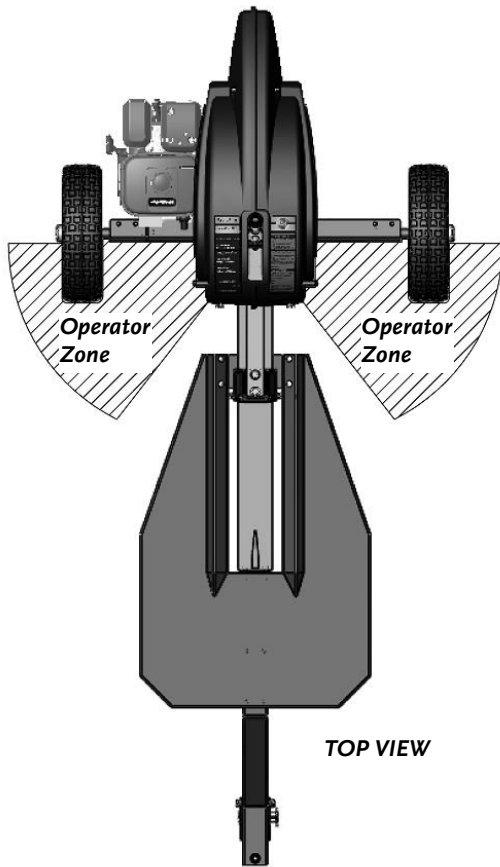

Figure 12
- When operating the Log Splitter, make sure you are standing in the safe operating area (OPERATOR ZONE) as shown in **Figure 12**. You must stay in the safe operating area at all times when the ram is in motion (whether extending or retracting). Never place any part of your body into a position that causes an unsafe operating condition.